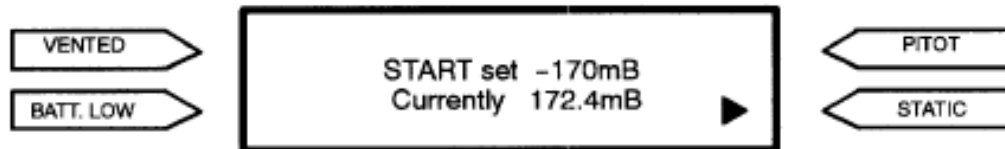

Figure 23 Calibrating at Second Set Point
- K. Press the START key on the PSLT to commence calibration. If required, note the initial PSLT reading, e.g. 'Currently -172.4 mB' as shown in *Figure 23*.